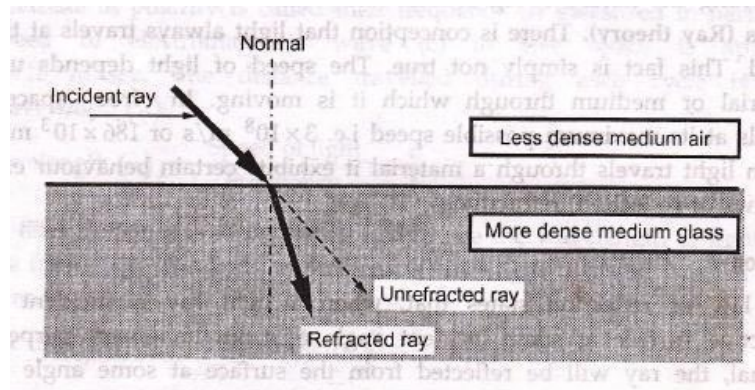

Fig.1.6.3 Refraction
- When a wave passes through a less dense medium to a more dense medium, the wave is refracted (bent) towards the normal. Fig. 1.6.3 shows the refraction phenomena.